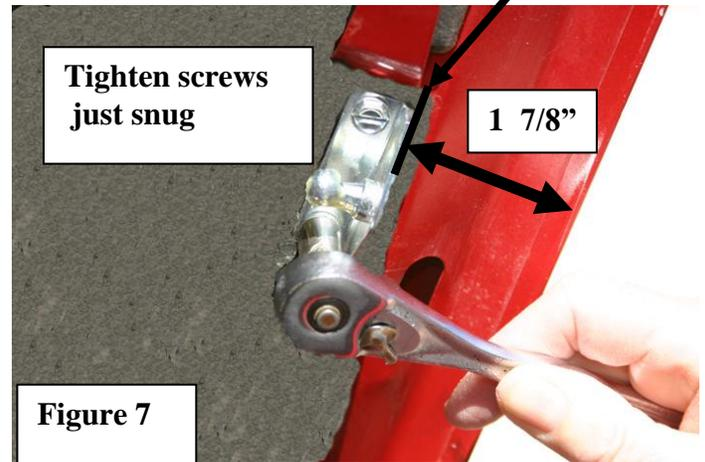

Figure 7
3. Snap the small end of a gas spring onto the **lower** Ball Stud Bracket. The one you just installed. **Don't snap it on the upper one yet.** Using one of the brackets with equal sized holes, position it per the photo, figure 5, but just use the gas spring as a gauge by lightly setting it against the ball stud **with the ball stud facing inward**. With the hood on the prop rod, and the gas spring lined up with the ball stud, the bracket end should land about 1-7/8 inch away from the edge of the hood, 1/8 inch down from the hood's insulation clip and lined up with it. See figure 5 and figure 7. **The ball stud should face inward.** The position of this ball stud clip establishes how far your hood opens when you are finished. It should open approximately the same as it did when the prop rod was holding it open. **Don't try to vary the position more than 1/2"** since that may prevent the gas spring from closing all the way.
using your drill motor and a 5/16" nut driver. You can also just use a 5/16" socket wrench; however it's easier with a drill motor. If you use a corded electric drill, be extremely careful to set it on very slow speed and go only to *almost* snug or you will strip the screw. We recommend using a battery powered drill with a clutch set on a light setting. Then finish tightening the screw with a socket and ratchet, only to wrist tight. See figure 7. Go carefully and don't strip the threads. Then drill the other hole and install that lock washer and screw.